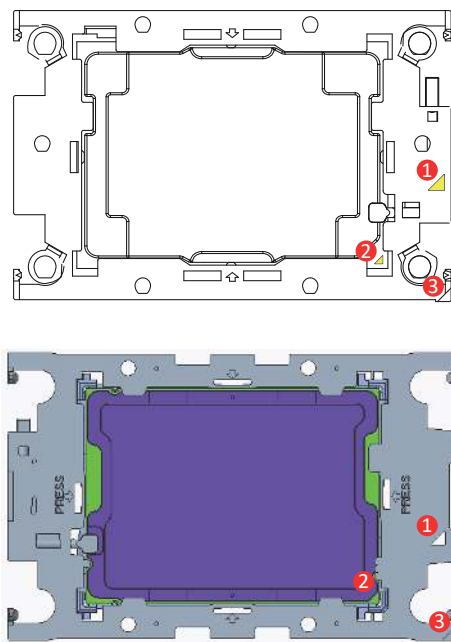

Figure 1
2. Install the processor first with the plastic carrier. Align the golden color triangle mark with the hollow triangle mark on the carrier, then align the key on the processor LHS cover and side, push the processor and confirm the 4 clips securely locked (Figure 1 & 2)